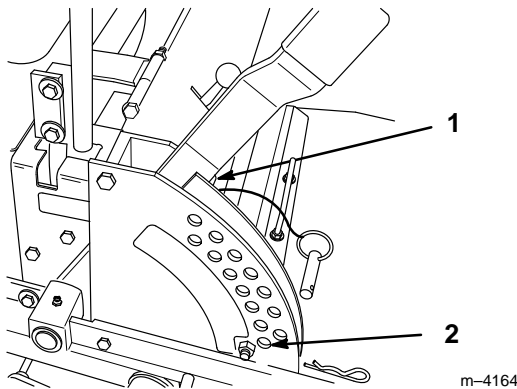

Figure 44
2. Check tire pressure of all four (4) tires. If needed, adjust to 13 psi (90 kPa)
4. Raise the deck to the transport position and take all force off of the two large deck lift springs by loosening nut in front of each spring (Fig. 44).
5. Place two 1-1/2" (38 mm) thick blocks under rear left and right lower edge of mower. Place one 2" (51 mm) block under front center lower edge of mower. Lower mower to the 1-1/2" (38 mm) height-of-cut position (Fig. 44).
12. Raise deck lift lever to the transport position, (Fig. 44).